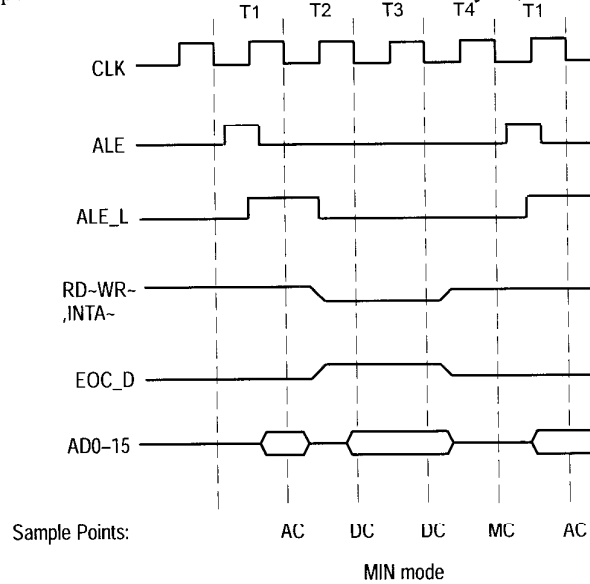

Figure 3-3: 8086/8088 Clocking in MIN Mode
- In MIN mode, the ALE line is latched on the rising edge of CLK. (See Figure 3-3.) This keeps it valid so the falling edge of CLK, which is used in the CSM, can read it and log in the address. This signal is ALE_L. A second signal, EOC_D, is generated by logically ORing the RD~, WR~, and INTA~ signals.
Figure 3-3 also shows when the various sample points are asserted. Sample points DC and MC occur at the end of a bus cycle, the only time the data is valid.